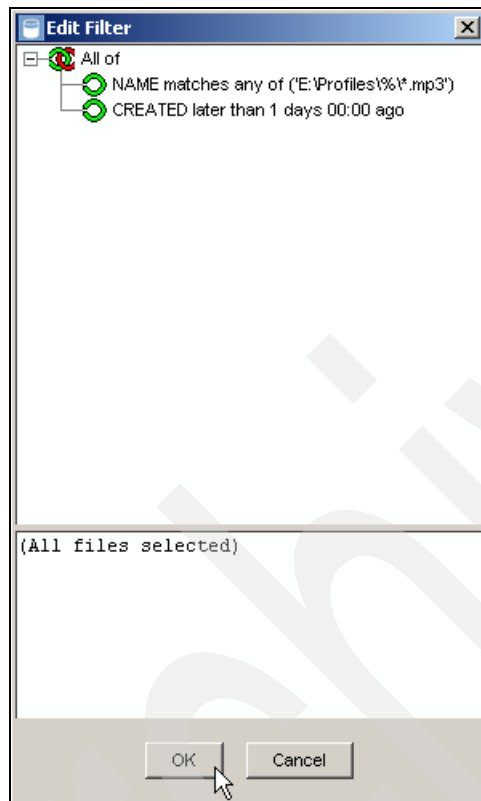

Figure 2-41 Edit Filter
4. Figure 2-41 on page 44 shows a filter that has the following characteristics: